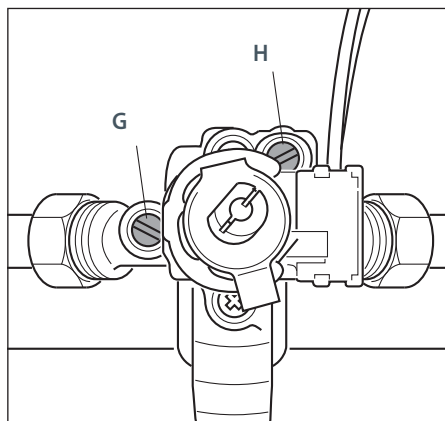

Fig. 15b Adjusting the minimum burner setting—Dual burner
- 4 Using a small flat screwdriver, turn the screw "H" (see Fig.15b) to the correct regulation.
- 4 Using a screwdriver, turn the screw "G" (see Fig.15b) to the correct regulation.